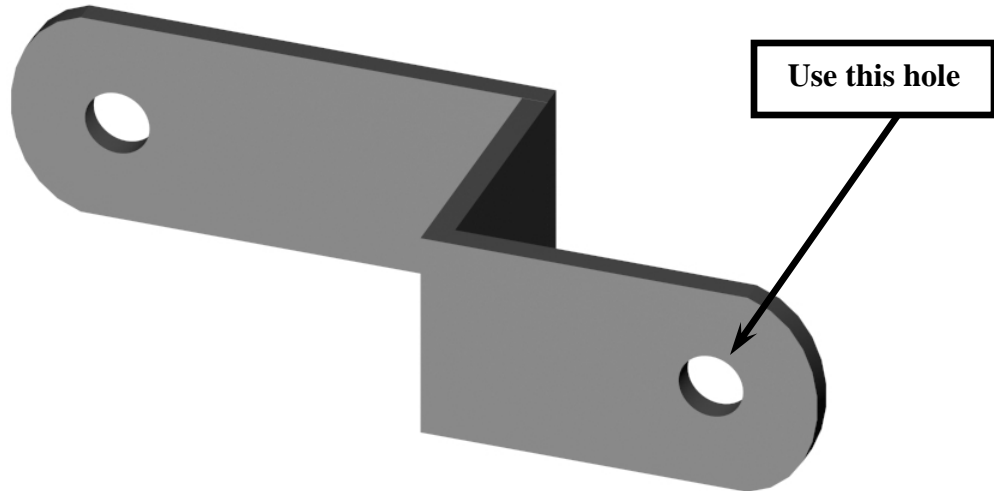
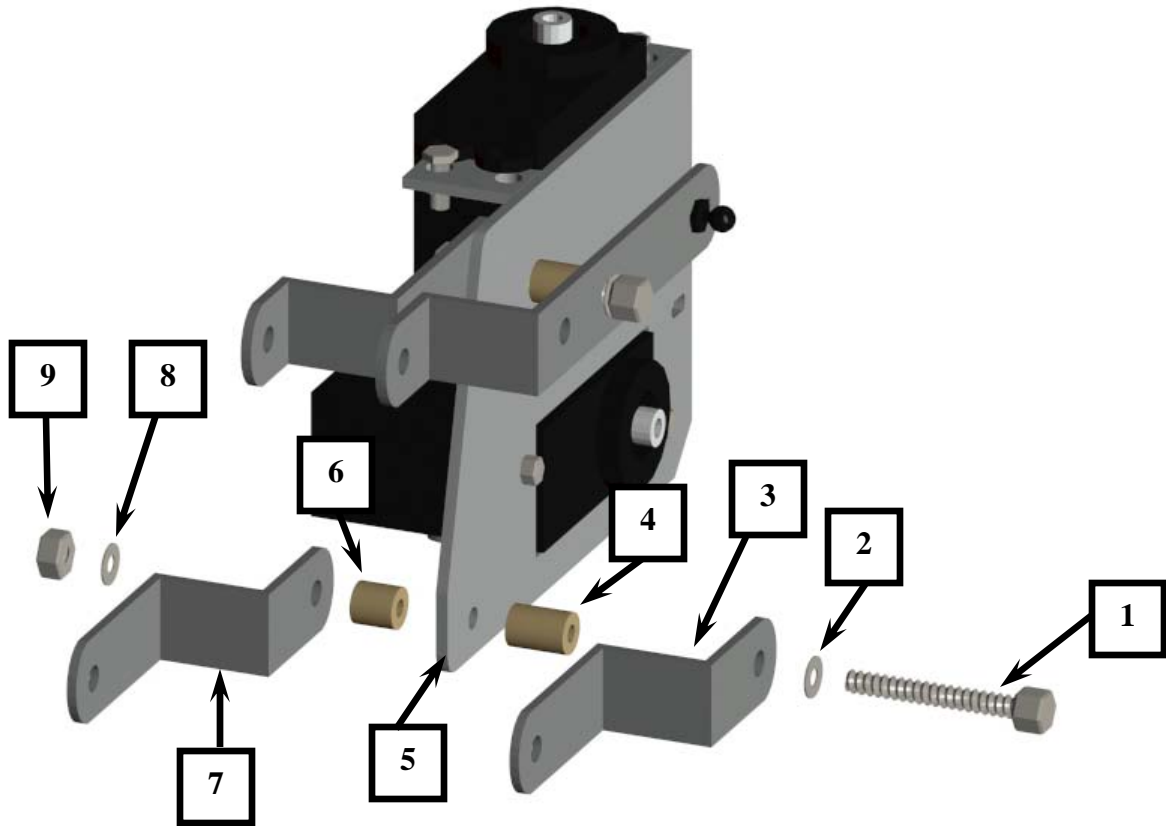

Figure 14: Lower Horizontal Leg Brace
Figure 15: Lower Horizontal Leg Assembly
9. Attach (2) lower horizontal leg braces with the same hardware and in the same order as the previous steps to the lower hole on the servo mount as shown in Figure 14. Use the close-up diagram on the next page as a reference. Ensure that the shorter end of the lower horizontal leg brace is installed to the servo mount as shown in figure 14 and figure 15.
9. Use the close-up diagram in Figure 15 for the complete assembly sequence.